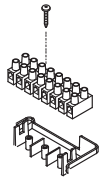

Fig. 15
4. Engage the M2 low voltage 8 way terminal strip over the vertical flanges and secure with the screw supplied (Fig. 15).